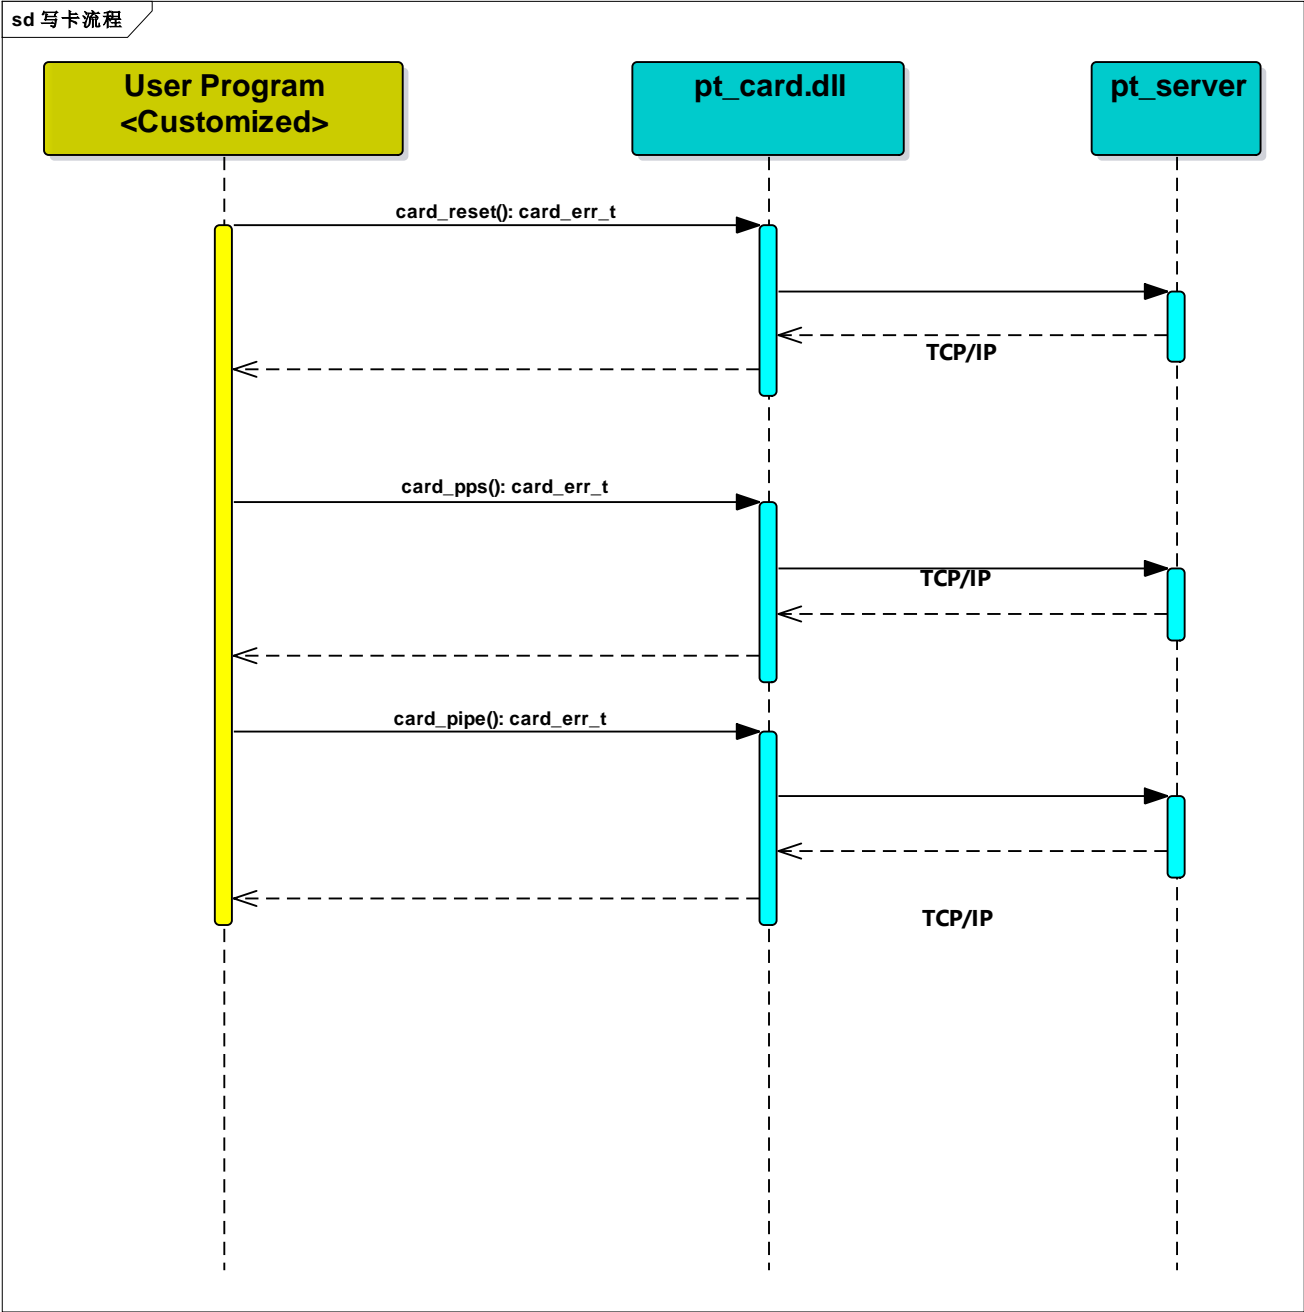

Figure 3.2 Card Writing Process
- Running process: The user program completes the personalized writing of the chip by calling the interface function of pt_card.dll, as shown in Figure 3.2.